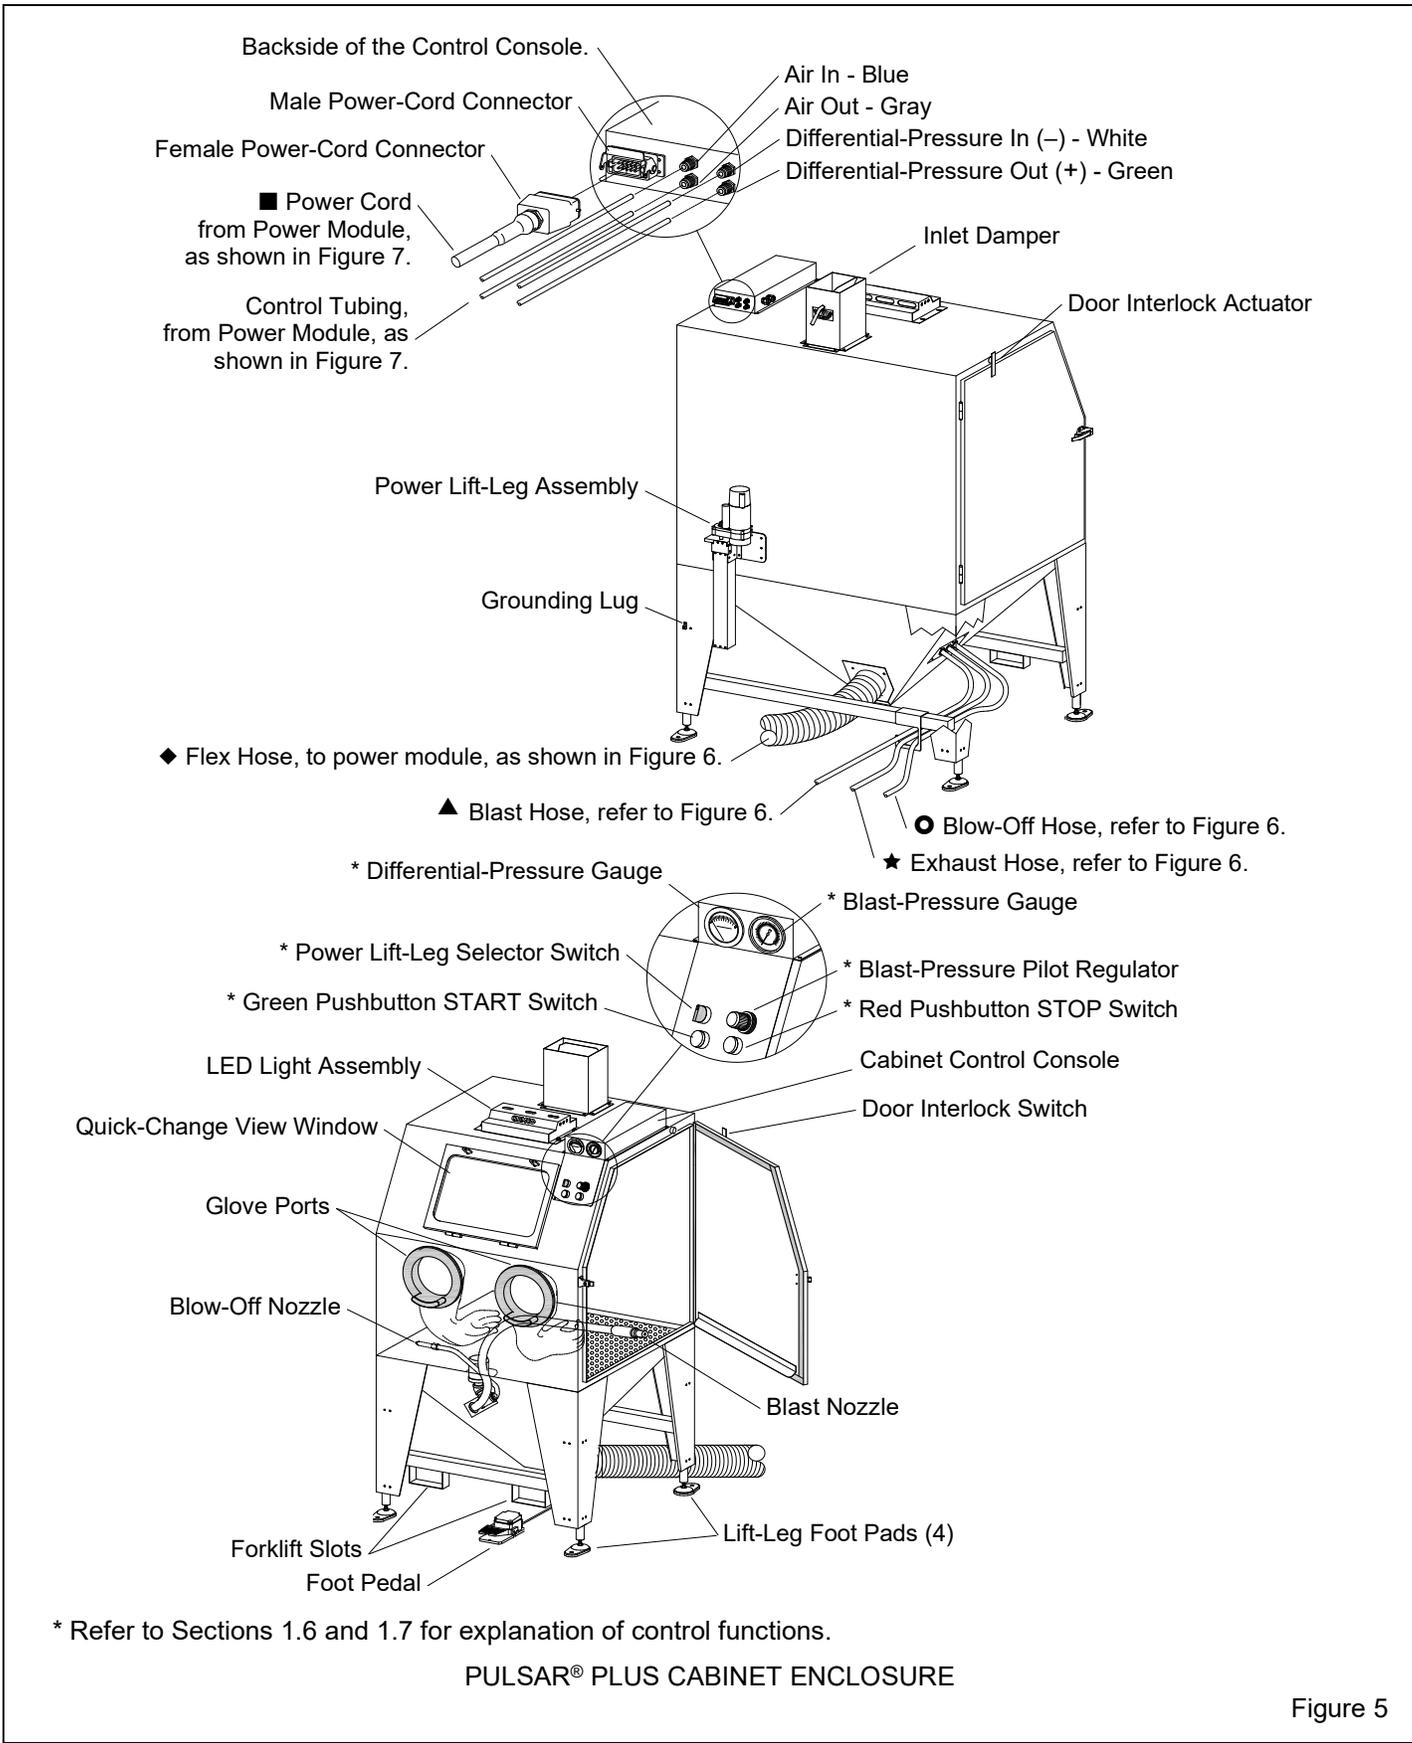

Figure 5
Refer to the illustrations in Figures 5, 6, and 7 to aid in making connections between the cabinet and power module. Unless noted otherwise, the sequence of assembly in Sections 2.2 through 2.8 may be done in any order that is convenient for the installer.
2.7.1 Connect the flex hose to the cabinet-hopper pipe adaptor and reclaimer inlet adaptor, as shown in Figures 5 and 6. It is easier to slip the hose over the adaptors and create a tighter seal if the first two or three inches of wire are removed from the inside of the hose. The wire has been stripped on hoses supplied on new cabinets. Use care not to damage the hose. Clamp flex hose securely in position with worm clamps provided. **NOTE: The hose wire helps dissipate static electricity in the conveying hose and helps ground each segment. For the hose wire to dissipate static electricity, the wire must touch the metal of each segment.**
Located on the top-rear edge of the cabinet, as shown in Figure 5.